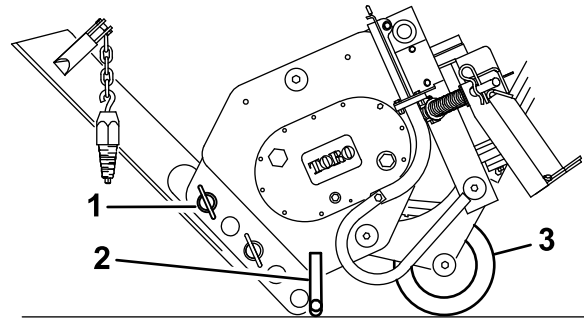

Figure 4
3. Swing the blade up and secure it using the lynch and clevis pin as shown in Figure 4.
4. Tilt the plow forward and lower it to the ground or trailer, with the stand and coulter supporting the weight of the plow (Figure 4).